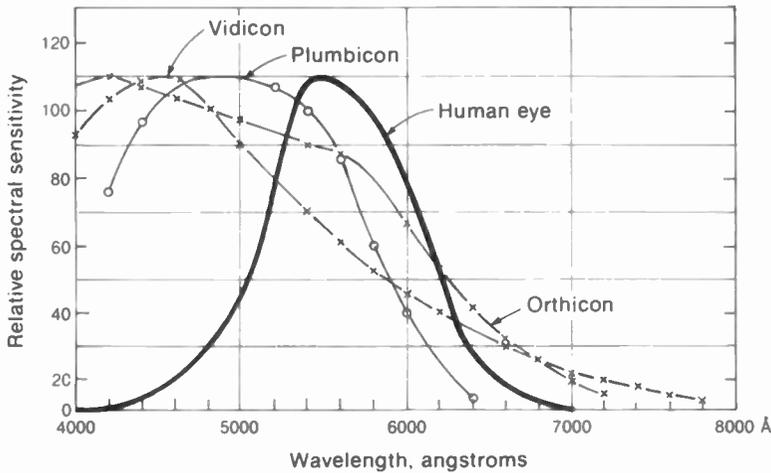

FIGURE 3-13 COMPARISON OF SENSITIVITY TO LIGHT OF DIFFERENT WAVELENGTHS FOR ORTHICON, VIDICON, AND PLUMBICON CAMERA TUBES. (NORTH AMERICAN PHILIPS CO. INC.)
**Spectral response.** Figure 3-13 compares the sensitivity of the image orthicon, vidicon, and plumbicon for light of different colors. The